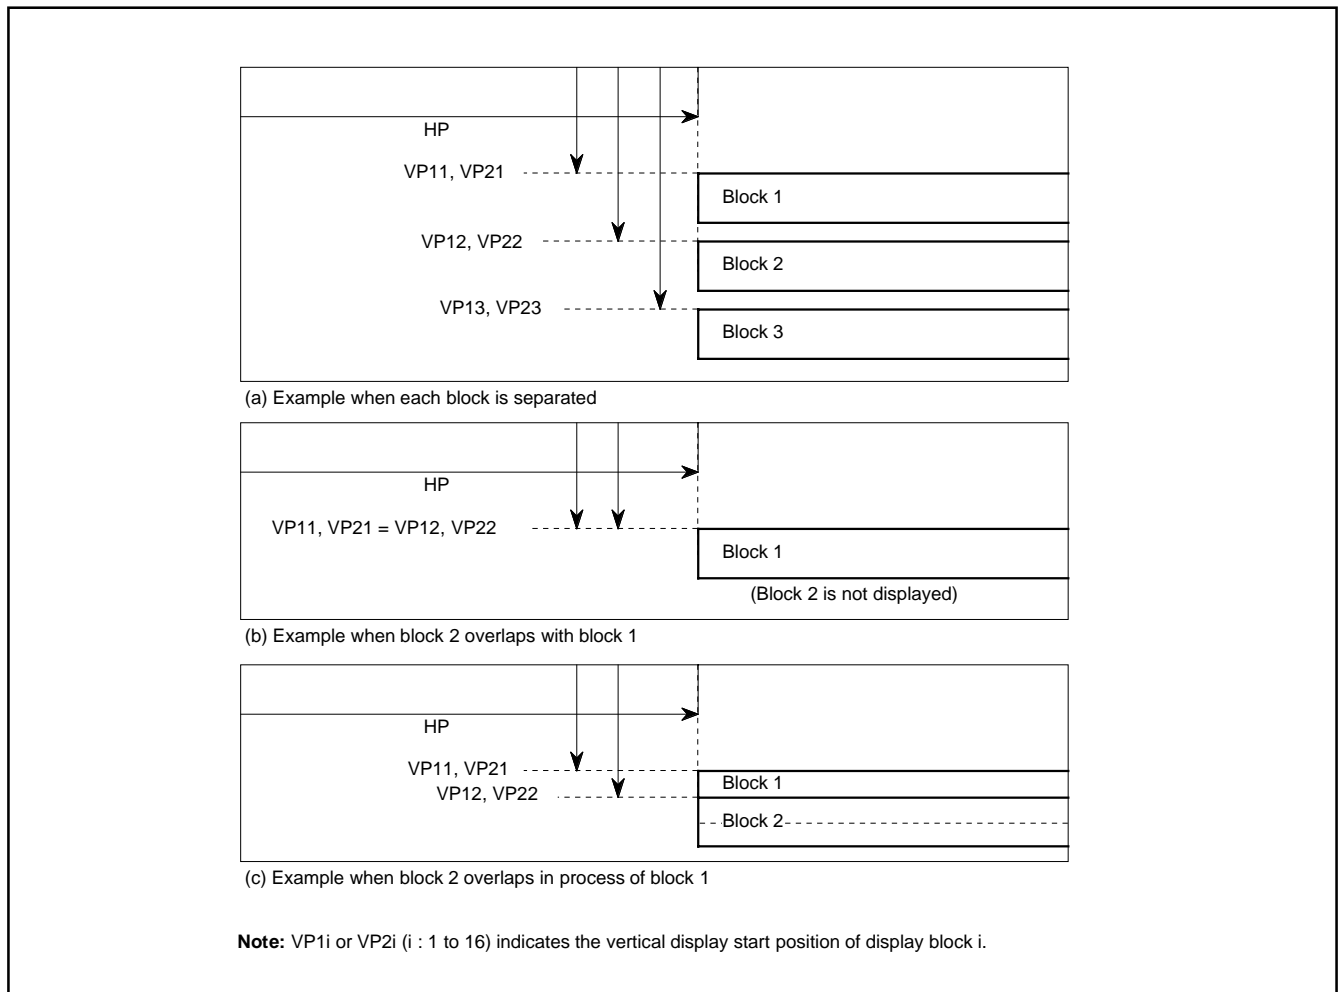

Fig. 8.11.8 Display Position
- When the display start position is overlapped with another block (Figure 8.11.8 (b)), a lower block number (1 to 16) is displayed on the front.
- When another block display position appears while one block is displayed (Figure 8.11.8 (c)), the block with a larger set value as the vertical display start position is displayed. However, do not display block with the dot size of 2T_C × 2H or 3T_C × 3H during display period (*) of another block.